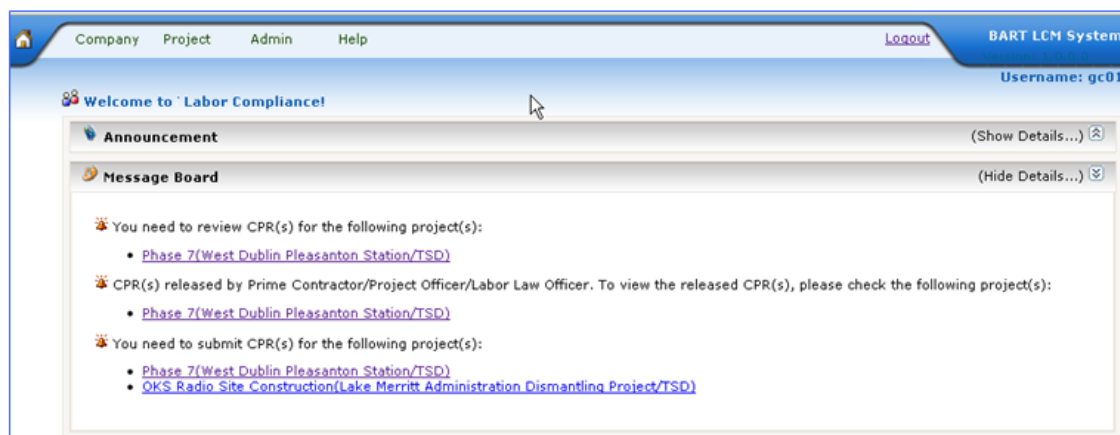

Figure 11 – Announcement and Message Board Screen
3. You may see announcements and messages such as those in Figure 11 when you log on. Click on the link to be directed to the CPR Page.